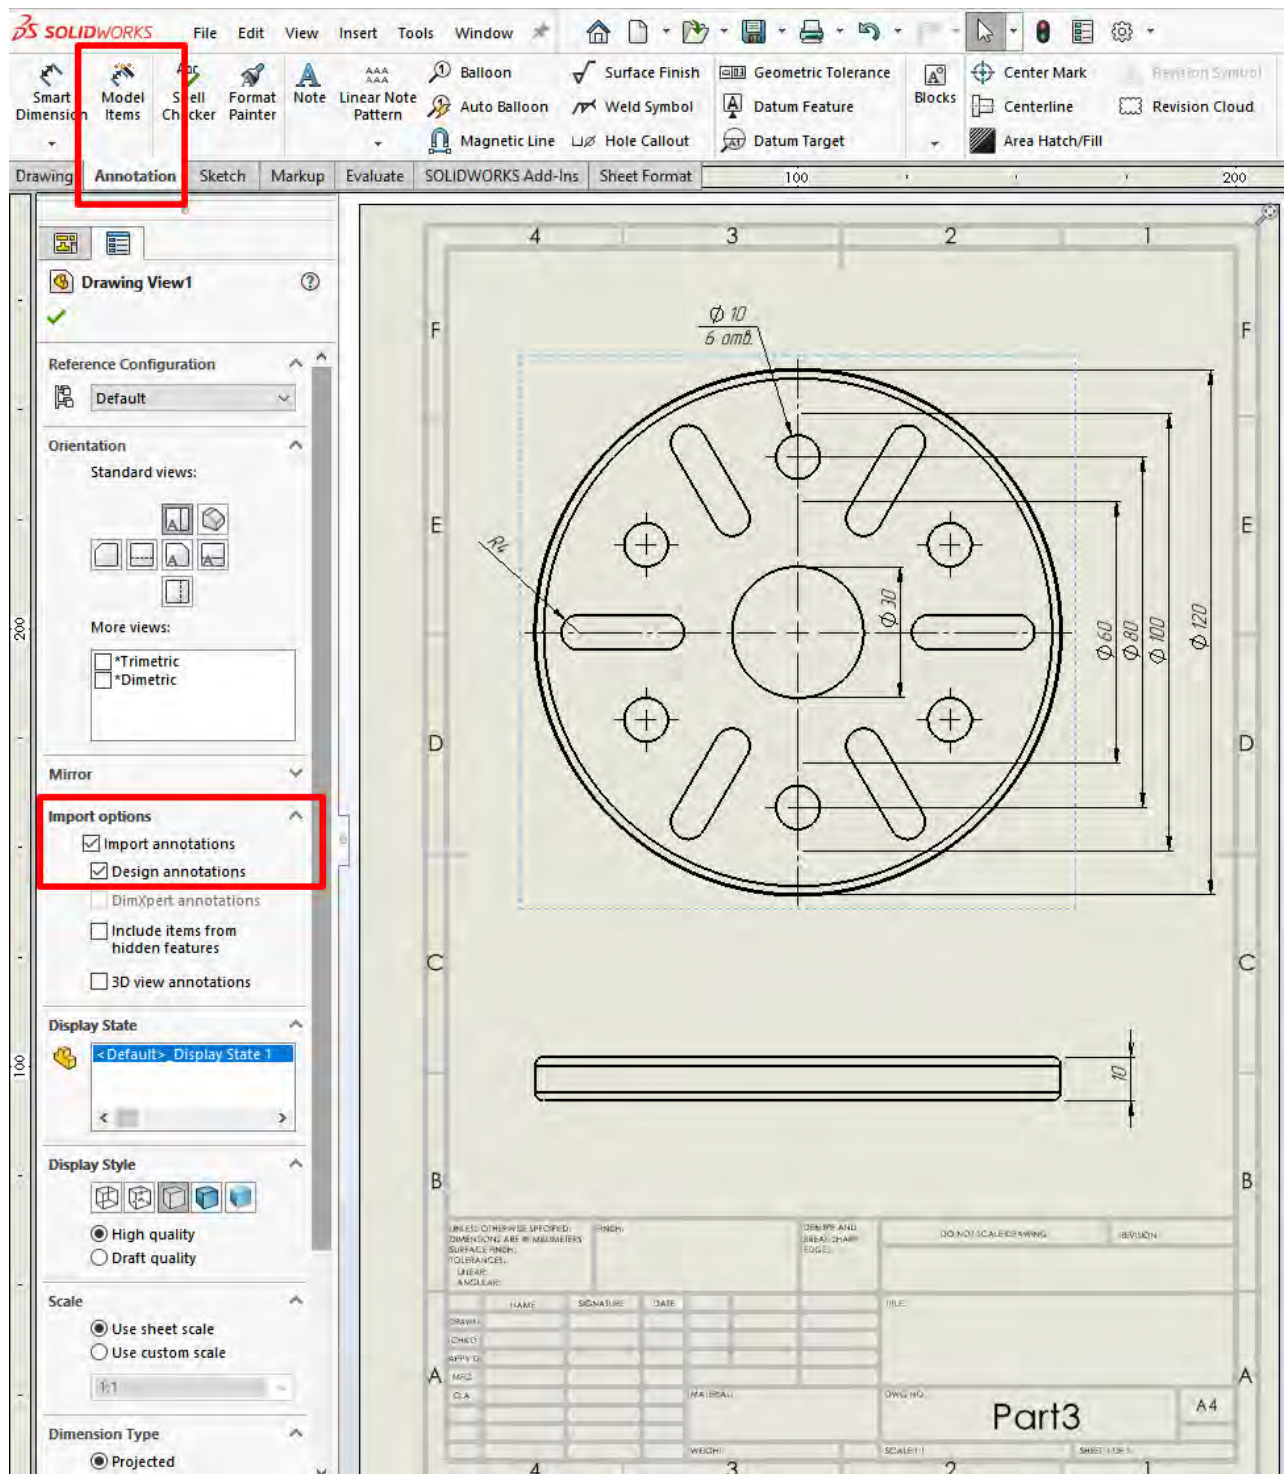

Fig. 14
- Use the **Import Annotation – Design Annotation function** to automatically transfer dimensions from the model to the drawing (Figure 14).